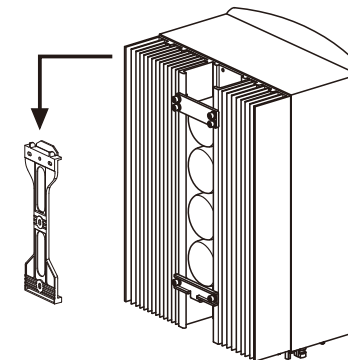

Figure 4.5 Wall Mount Bracket
2. Lift up the inverter (be careful to avoid injury), and align the back bracket on the inverter with the convex section of the mounting bracket. Hang the inverter on the mounting bracket and make sure the inverter is secure (see Figure 4.5)